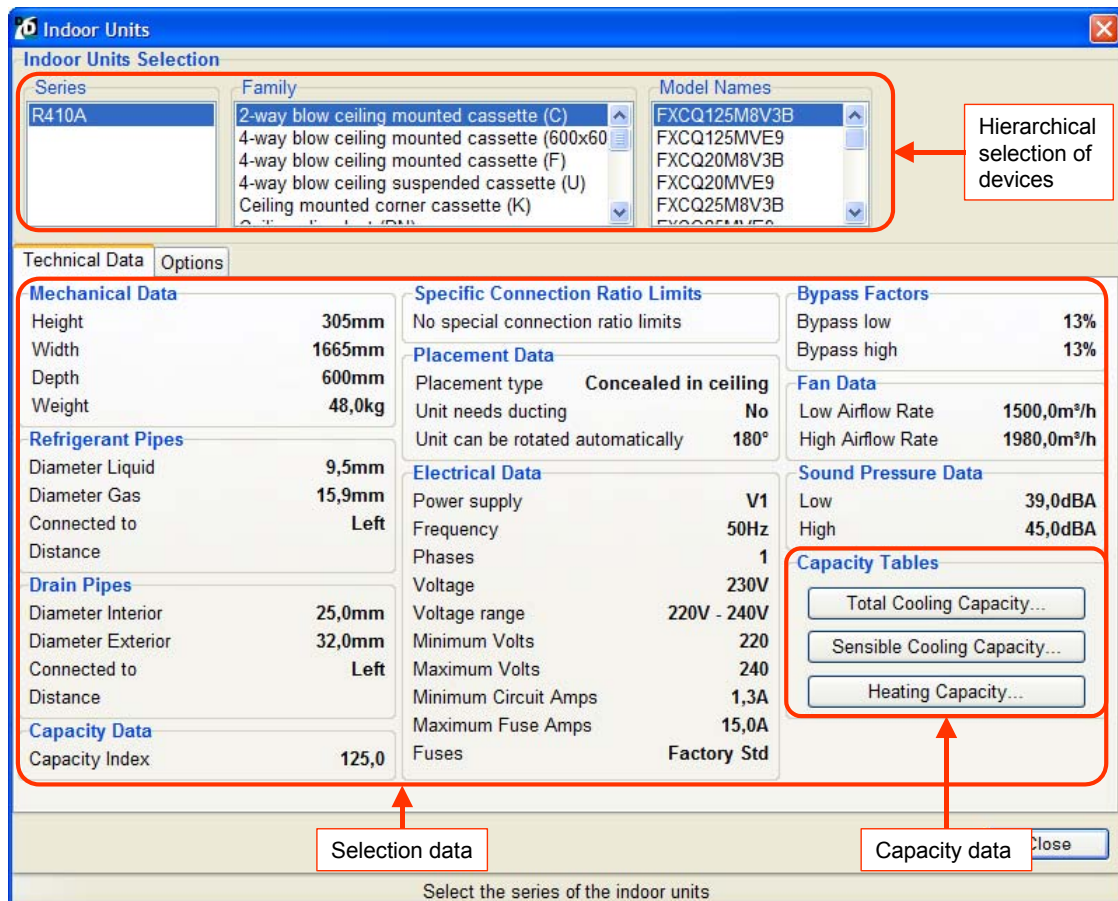

Figure 4: The indoor units overview
- The information for a given model is organized in tabbed windows (see also Figure 4). The **Technical Data** tab shows the properties that are important for the device selection, whereas the **Options** tab contains the possible combinations with other devices or options.
Figure 4 shows the overview screen for the indoor units, with its hierarchical selection at the top and its detailed technical information at the bottom of the window. The device database viewer program may be considered as an interactive data book.